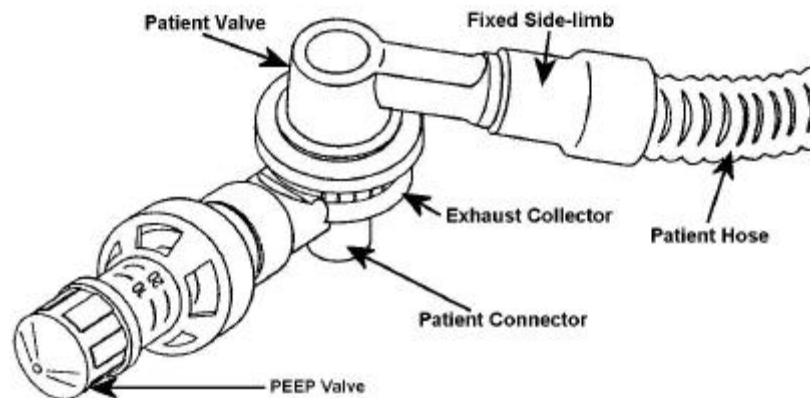

Figure 3: Connection of the patient valve / PEEP valve/ Exhaust collector accessories
Fig 3 shows the general arrangement of the set opened out ready for action and complete with the optional gas powered aspirator and an oxygen therapy set. Velcro fasteners are used to ensure easy and reliable access even under the most extreme conditions. Pockets and straps are available for accessories such as PEEP valves, Guedel airways and alternative masks.
The Pneupac patient valve supplied with the ventiPAC ventilator can be fitted with a PEEP valve by means of an exhaust collector (see Fig. 3). This collector is a push fit onto the body of the patient valve and connects the exhalation ring to a 30 mm male taper connection port without interfering with the function of the valve. Pneupac can supply a compact PEEP valve to fit onto this port with an adjustment range of 0-20 x100Pa (0-20cmH₂O). PEEP setting is by means of a calibrated adjustment knob.
Connect to the control module (3) the threaded end of the input hose (7) and tighten the securing nut lightly using a spanner. Connect the patient hose as indicated by the symbols on the side of the module. Connect the other end of the patient hose to the fixed side limb of the patient valve (see Fig. 3.).